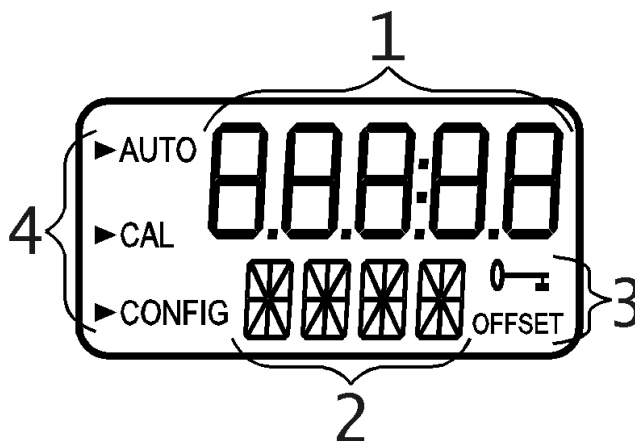

Figure 1 – Display used in the instrument.
Figure 1 illustrates all the items that can appear on the display. The upper row of the display (1) is used for reporting the turbidity levels and to provide user guidance in the customer setting routine. The lower row of the display (2) is used to communicate error messages and provide user guidance. The display has two icons (3) that are used to indicate the use of access code and offset mode. In addition, mode arrows (4) are used to indicate the current instrument operating mode; AUTO (normal operation), CAL (calibration) and CONFIG (configuration).